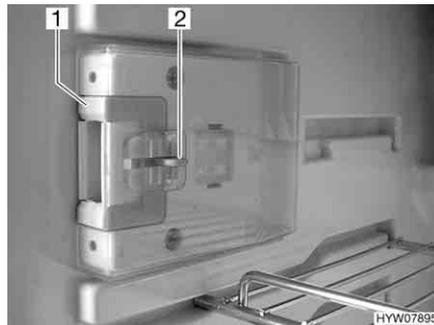
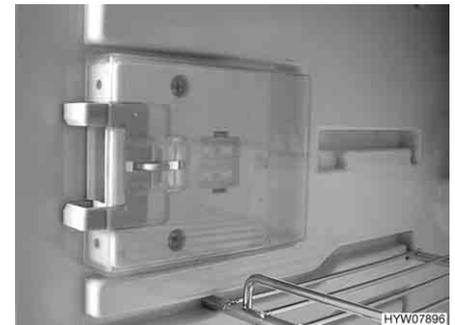

Fig. 171 Locking device in normal position
Fig. 172 Locking device in ventilation position
- Press down the unlocking device (Fig. 171,2).
- Push locking device (Fig. 171,1) forwards (Fig. 172).